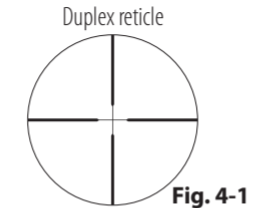

Fig. 4-1
(1) Focusing
- ① Look through the eyepiece with your eye positioned about 10 cm (4 in) away from the eyepiece to see the Duplex reticle (Fig. 4-1). Be sure your eye is positioned with proper alignment and with proper eye relief, otherwise the view will “black out.”
- ② Point the objective end of the scope at the sky (NOT point it at the sun) or at a plain unpatterned wall.
- ③ Turn the eyepiece adjustment counter-clockwise and then turn it clockwise until the reticle appears sharp.
(2) Magnification